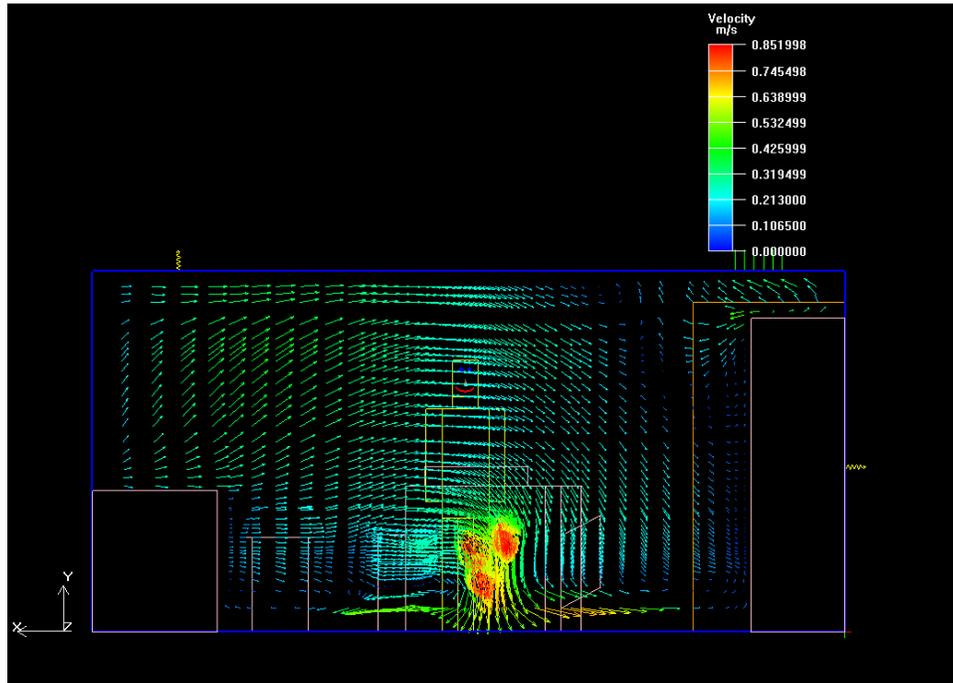

Figure 3.11: Velocity Vectors in an  $x$ - $y$  Cross-Section
*This will orient the model as shown in Figure 3.11. You can see the flow distribution of low-velocity ventilation air throughout the room on this plane.*